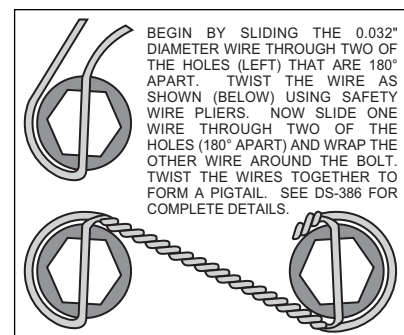

Figure 3. Safety Wire Diagram
- Position the caliper mounting bracket (1) on the spindle with the offset plate facing towards the center of the vehicle. **NOTE:** Be sure the heads of the caliper bracket (1) insert nuts are facing outward toward the wheel. Place one lock washer (2) on each of the three caliper bracket bolts (3). Mount bracket to the dust plate face of the spindle and align the three 3/8-16 holes in the spindle with the corresponding holes in the bracket (1). Apply red *Loctite*® 271 to all three bolt threads (3) and install. Torque bolts (3) to 35 ft-lb.
- Install wheel studs (4) into the hub (5). Torque to 77 ft-lb. **NOTE:** There are two lug patterns of five holes each in the hub (5 x 4.50 and 5 x 4.75). Make sure of the correct hole pattern for the wheel application before installing the studs into the hub.
- Pack the large inner bearing cone (6) with high temperature disc brake bearing grease (available from your local auto parts store) and install into the backside of the hub (5).
- Install the grease seal (7) into the backside of the hub (5).
- Pack the small outer bearing cone (13) with high temperature disc brake bearing grease and install into front side of the hub (5). Slide the hub assembly (5, 6, 7 and 13) onto the spindle. Secure using spindle washer (14), stock adjusting nut, and nut locking device. Adjust wheel bearing pre-load per Original Equipment Manufacturer (OEM) specifications.
- Install the o-ring (16) and the dust cap (15) into the hub (5). **NOTE:** O-ring (16) friction will not allow cap (15) to unscrew on its own.
- With the larger I.D. side of the rotor (8) facing away from the hat (9), bolt rotor (8) to hat (9) through the backside of the rotor using washers (10) and bolts (11). Torque bolts (11) to 85 in-lb. Safety wire bolts (11) using standard 0.032 inch diameter stainless steel safety wire as shown in Figure 3. Please refer to Wilwood's data sheet DS-386 (available at www.wilwood.org/ds386.pdf) for complete safety wire installation instructions.
- Slide the rotor/hat assembly over the studs (4) in the hub (5) taking care to align the small countersunk holes in the hat (9) with the small threaded holes in the hub (5). Install three flat head socket head screws (12) through the small holes in the hat (9) and torque to 85 in-lb.
- NOTE:** Please reference the caution statement at the beginning of the assembly instructions. With the bleed screws pointing up, mount the caliper (17) to the caliper mounting bracket (1) using two bolts (20), two lock washers (19) and two flat washers (18). Finger tighten the bolts (20). **NOTE:** Please be sure with differential bore calipers that the "large" piston is on the "exit" side of the rotor. View the rotor (8) through the top of the caliper (17). The rotor (8) should be centered in the caliper's top opening (17). If not, loosen the two bolts (20) and adjust the caliper (17) position by using 0.030 inch thick shim washers (18). The shim washers (18) should be placed between the caliper (17) and the caliper mounting bracket (1). Finger tighten bolts (20) and recheck caliper (17) alignment. Add as many shim washers (18) as necessary to achieve the correct alignment. Always use the same amount of shims on both the top and bottom caliper mounting bolts (20). Loosen the two bolts (20) and apply red *Loctite*® 271 to bolt threads (20) and torque to 47 ft-lb. Safety wire the two bolts (20) using wire manufactured for the purpose of securing nuts and bolts. **HINT:** If more than two shim washers (18) are needed per bolt (20), a small drop of red *Loctite*® 271 between the shim washers will help hold them together during assembly.
- Remove the caliper bridge spacer and bolt, then install the disc brake pads (21), then reinstall the caliper bridge spacer and bolt.